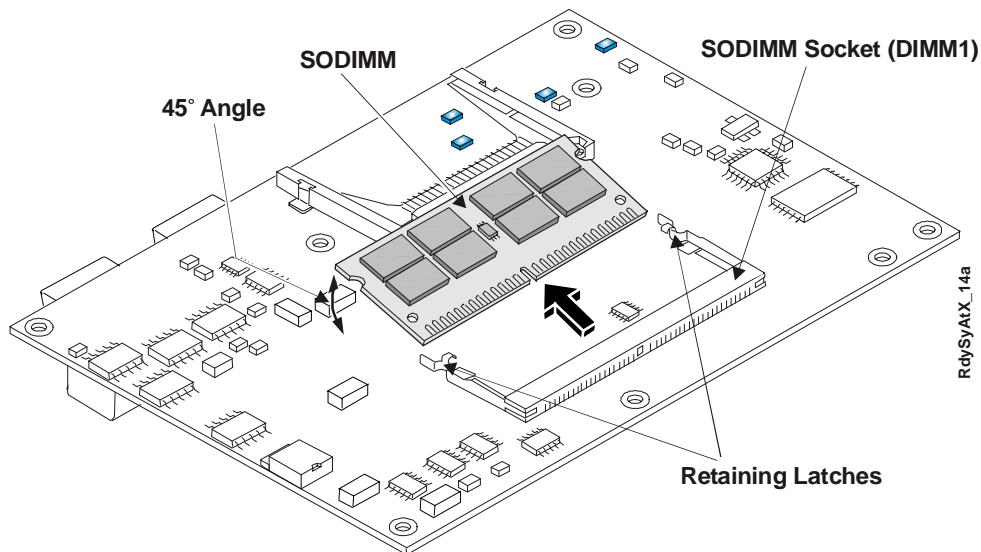

Figure 2-11. Removing SODIMM from Socket
7. Turn the ReadyBoard model over to access the bottom of the board while laying it on a flat anti-static surface. See Figure 2-11.
8. Locate the SODIMM socket (DIMM1) on the bottom of the ReadyBoard model. See Figure 2-11.
9. Open both retaining latches to release the SODIMM from the socket. See Figure 2-11.
10. Using the card edges, lift the SODIMM completely away from the socket. See Figure 2-11.
7. Turn the ReadyBoard model over to access the bottom of the board while laying on a flat anti-static surface. See Figure 2-11.